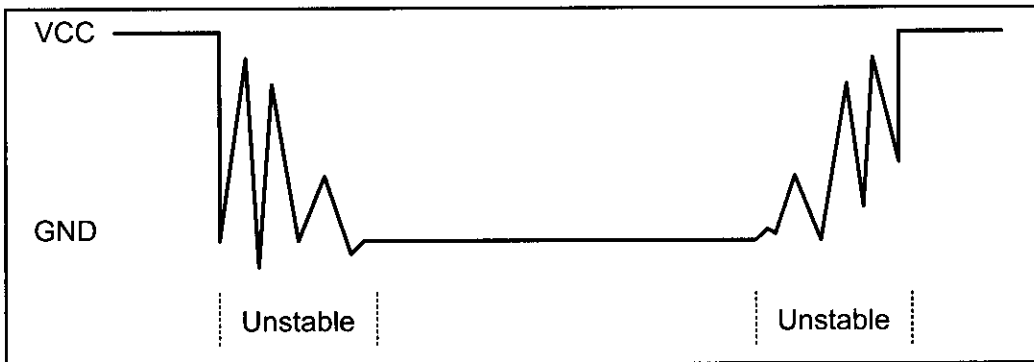

Figure 12-8. Keyboard Debounce
2. To see if any key is pressed, the columns are connected to the PORTB-Change interrupt. Therefore, any key press will cause an interrupt and the microcontroller will execute the ISR. The ISR must do two things: (a) ensure that the first key press detection was not erroneous due to spike noise, and (b) wait 20 ms to prevent the same key press from being interpreted as multiple key presses. See Figure 12-8 for keyboard debounce.